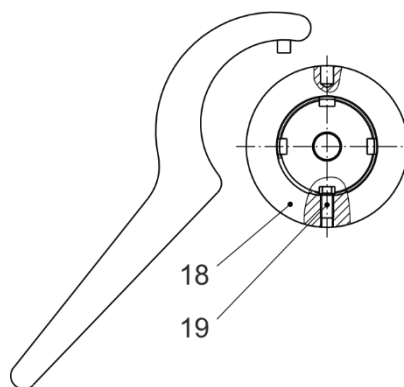

Fig. 11
On this design, the control element (3) must be shortened. Please contact the manufacturers if retrofitting is necessary. Adjustment takes place using a hook wrench, see Fig. 11.